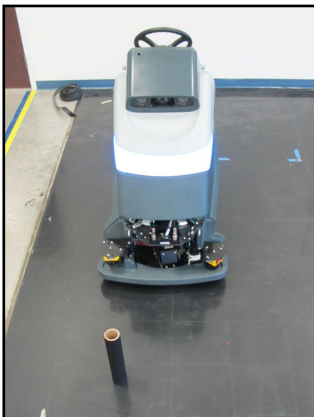

Figure 16: Right
2. Place the small target cylinder approximately 1 meter (3 feet) in front of the machine as shown in Figure 16: Right.